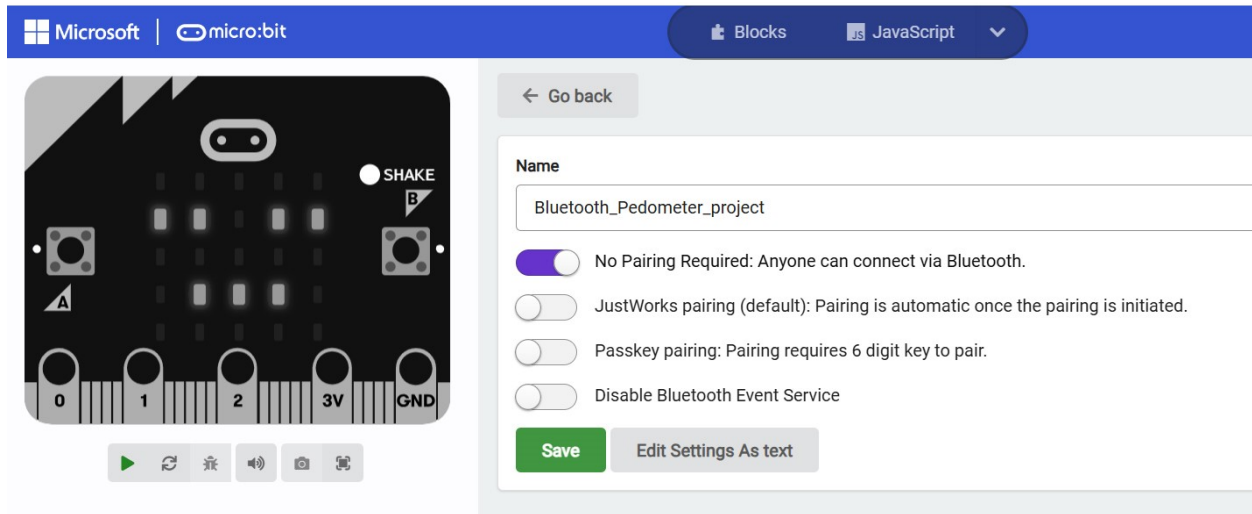

Figure 6: Pairing options
a. Before uploading the script make sure that “No Pairing Required: Anyone can connect via Bluetooth” is selected (Figure 6). You can find the pairing options by clicking on the “more” menu (i.e., the gear icon) and selecting “Project settings” from the floating menu.